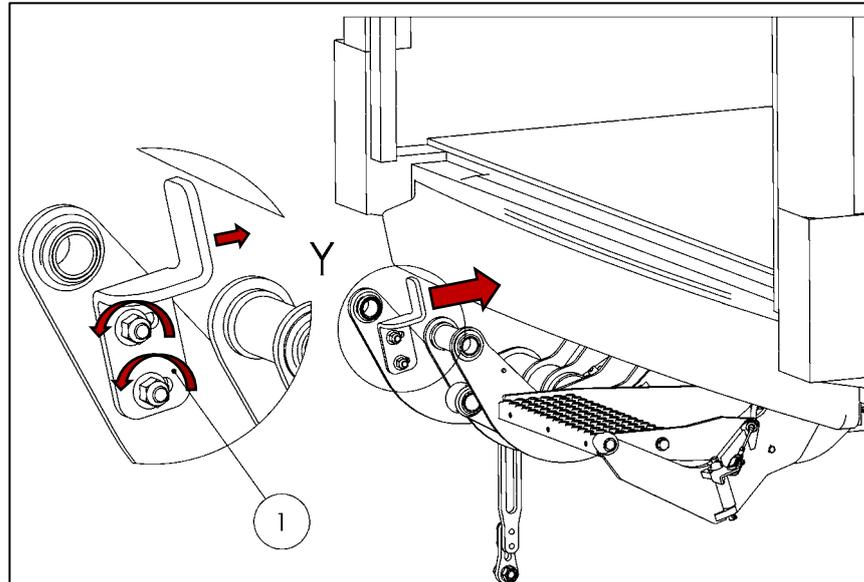

Figure 52
- Loosen the platform stop (1) and push it toward the vehicle (see Fig. 52).